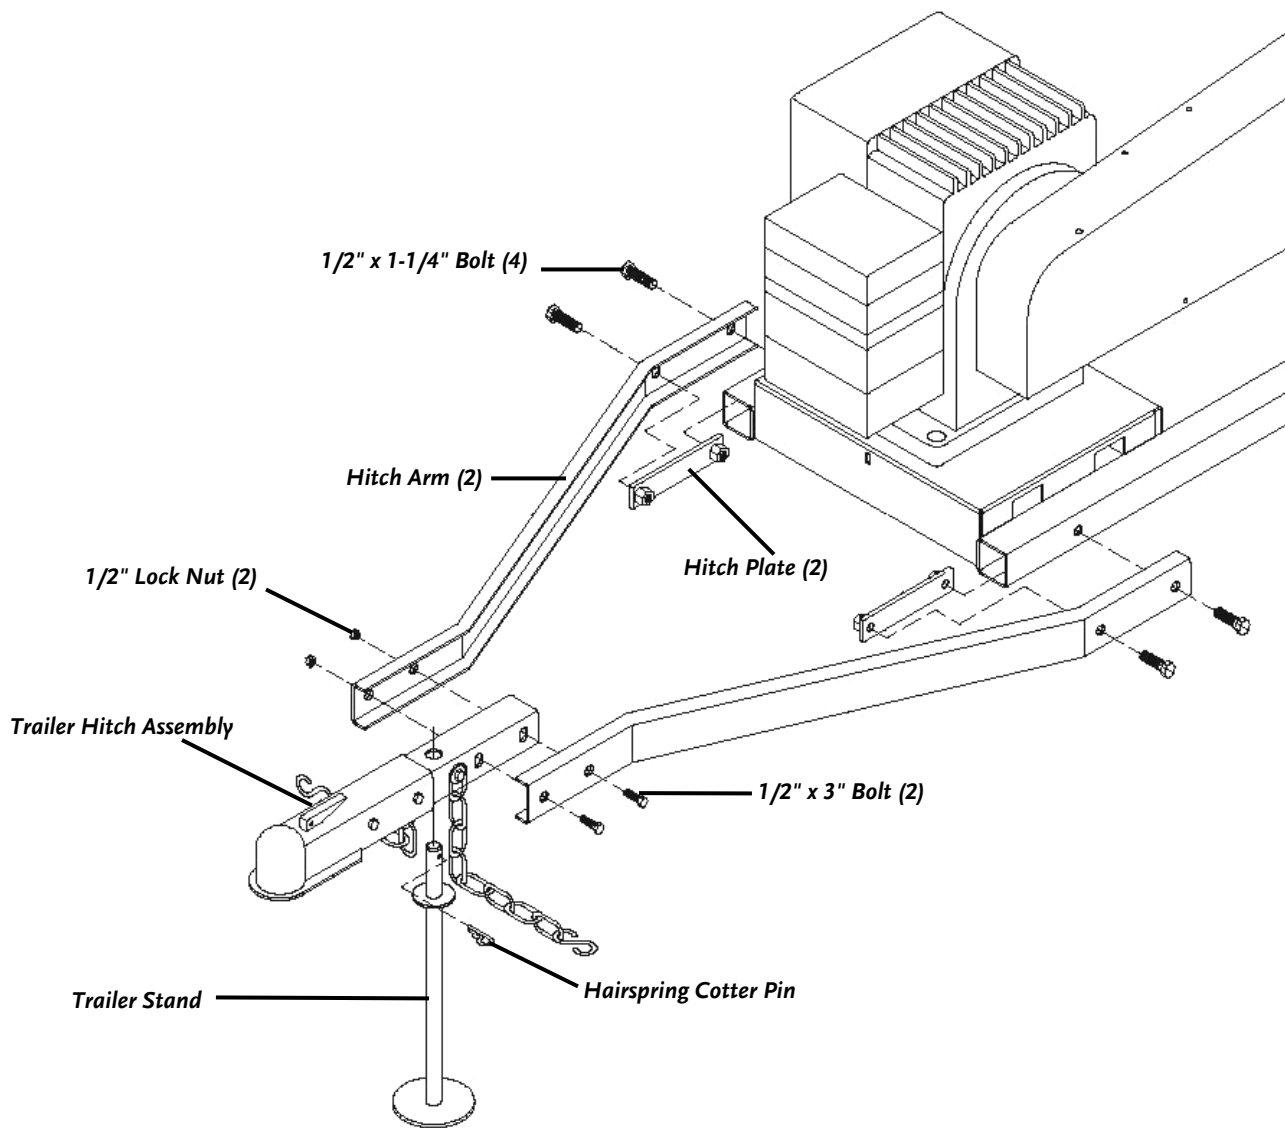

Figure 2
1. Attach the two (2) Hitch Arms to the Trailer Frame using the two (2) Hitch Arm Mounting Plates and four (4) 1/2"-13 x 1-1/4" Bolts (**Figure 2**). DO NOT tighten the bolts at this time.
2. Attach the Trailer Hitch Assembly to the Hitch Arms with two (2) 1/2"- 13 x 3" Bolts and two (2) 1/2"- 13 Lock Nuts (**Figure 2**). Tighten all of the hardware.
3. Slide the Trailer Stand up through the holes in the Hitch Assembly and secure with the Hairspring Cotter Pin (**Figure 2**).